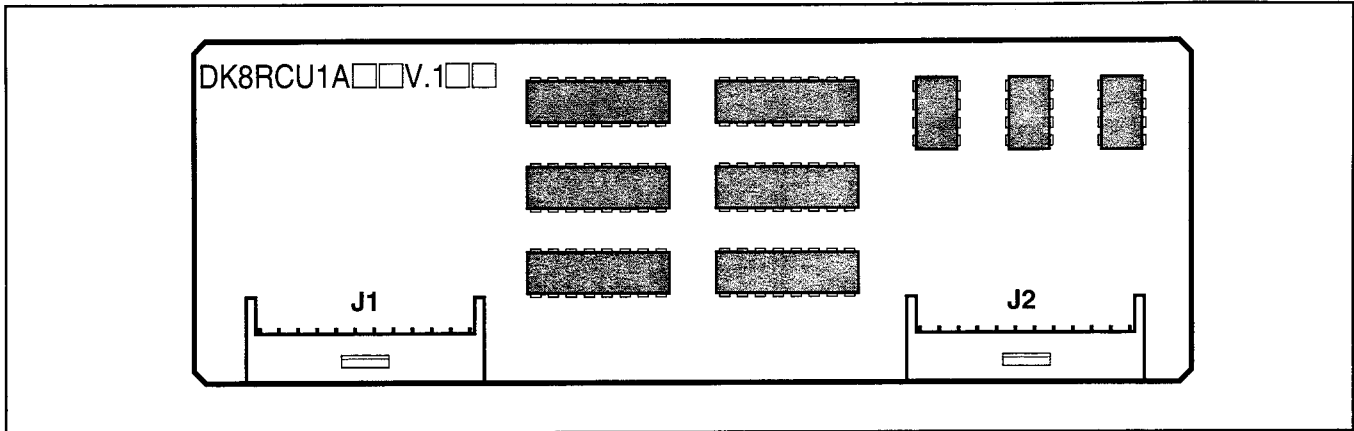

FIGURE 4-11
9.02 The QRCU is shown in Figure 4-11.